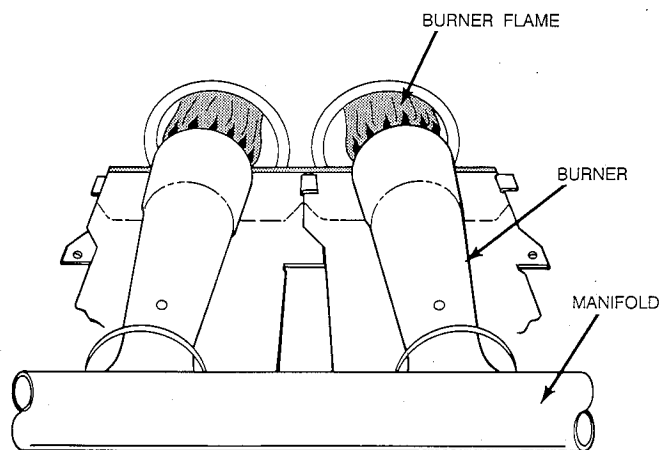

Figure 15—Burner Flame
- (3.) When correct input is obtained, replace regulator seal cap. Main burner flame should be clear blue, almost transparent. (See Figure 15.)